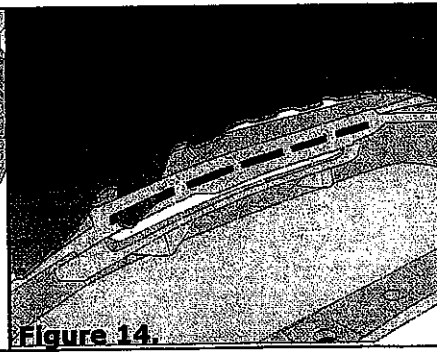
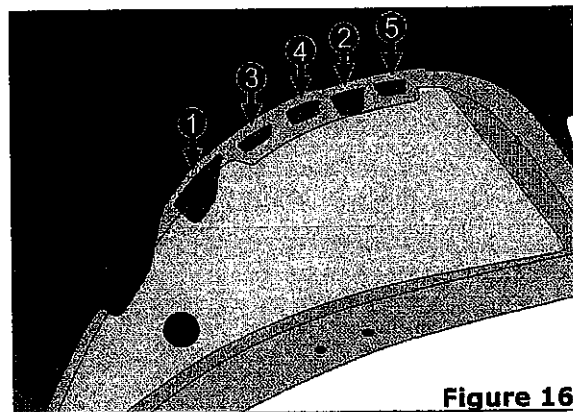

Figure 14.
Figure 16.
- It is also useful to leave outboard edge of chin untucked from fascia, as shown in Figure 14.
- Lock fascia tabs into place by rotating chin from wheel house opening towards the front of the vehicle, pushing each tab down by reaching through the fog lamp opening. Complete tab installation in the order indicated in Figure 16, below, starting with the most outboard tab, shown in Figure 14.